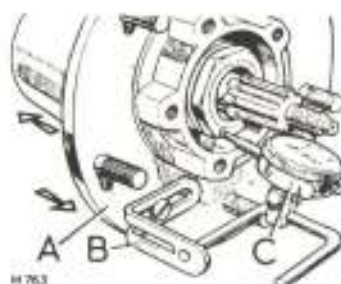

Fig. 65 Checking hub end-float
158. The adjusting procedure for the rear hub is exactly as that on the front hub. Para. 172 covers the procedure to be carried out except that items 2 and 10 are not applicable. See Fig. 65.